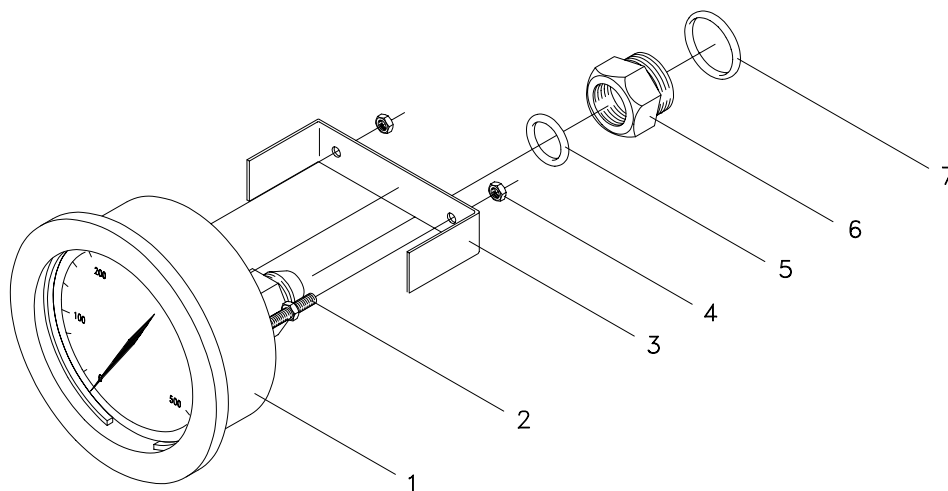

Figure 6-24. LP Pressure Gauges (ALP-G212, ALP-G315, ALP-G317)
6.8.4.9 LP Pressure Gauge (ALP-G212). Volume tank LP pressure gauge (ALP-G212) is one of three identical gauges used in the LWDS MK 3 Mod 0. The other two gauges, ALP-G315 and ALP-G317, are located in the control console assembly. All three gauges have a pressure range of 0-500 psig and can be removed and replaced using the same basic procedure shown here. Removal and reinstallation of the control console panel is covered in paragraph 6.8.5.9 for the control console gauges. Refer to Figure 6-24 for location of the parts called out in the procedure below and to Figure 7-19 for an index of replacement parts.